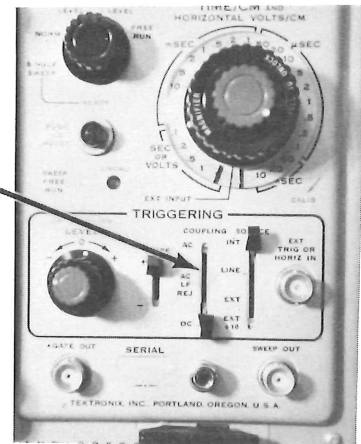

Figure 2B
2. Adjust INT TRIG DC LEVEL (R1 - see Figure 2A) so the spot on the CRT remains stationary (no horizontal movement) while moving the TRIGGERING COUPLING switch between AC and DC position (see Figure 2B).